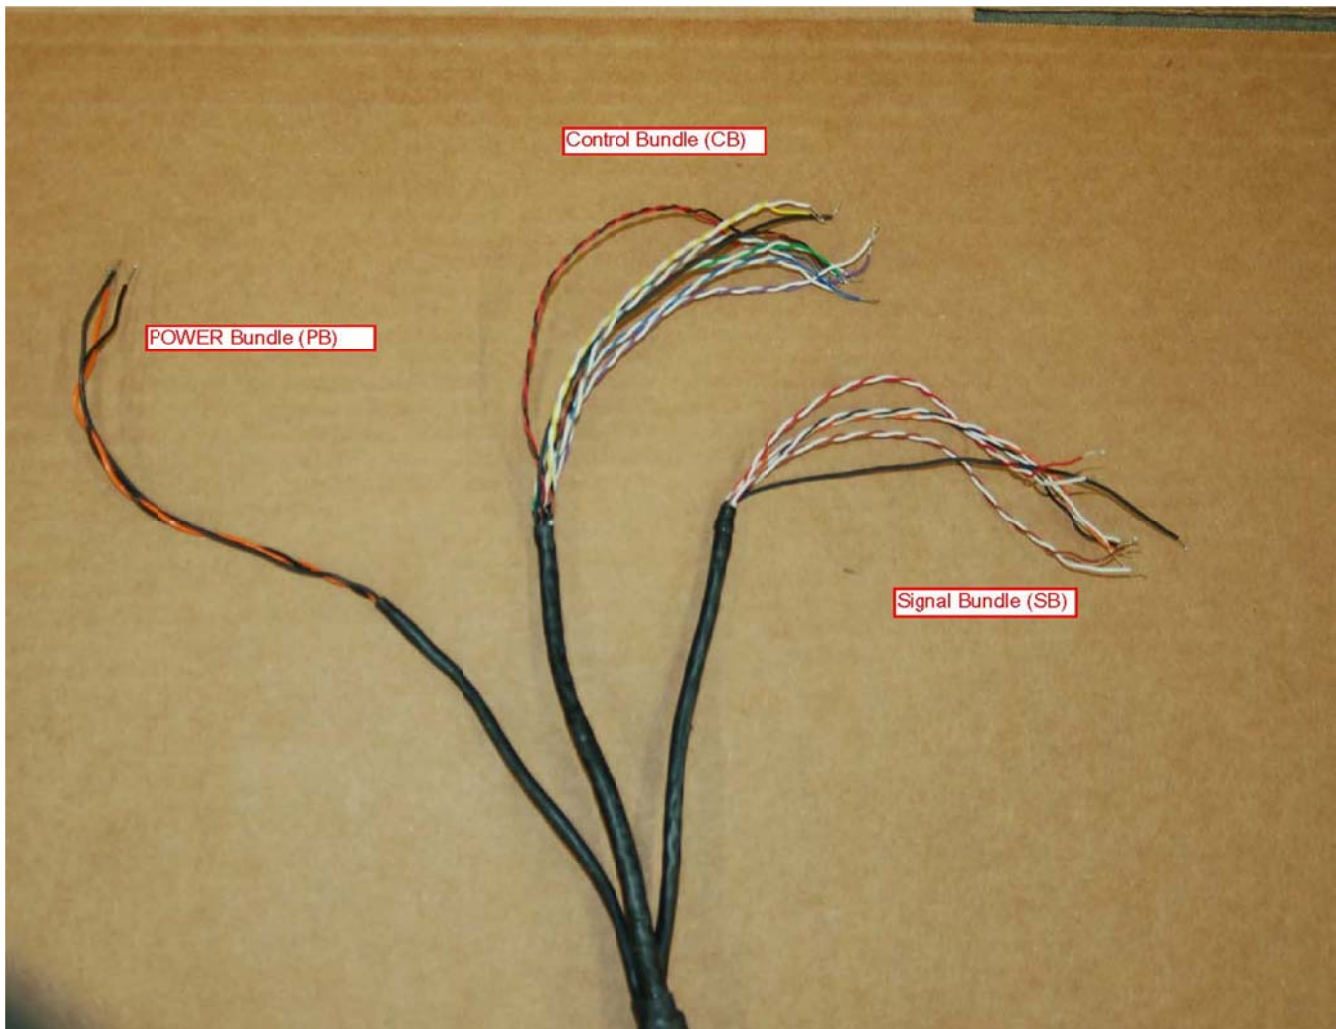

Figure 2 Details of pigtail end of cable.
The Shallow Borehole EpiSensor2 contains an integral potted cable, design for high reliability and long lifetime, at depth. The cable is “pigtailed”, providing bare wire connections at its outer end. Figure 2 shows a close up of the pigtailed end. This reflects the existence of three (3) “bundles” of wires: Signal Bundle (SB), Control Bundle (CB), and Power Bundle (PB). Each bundle is wrapped with insulating tubing at the pigtailed end, and each comes with a dedicated drain wire that has black insulation on it.. The connection details of the cable are shown in Table 1.